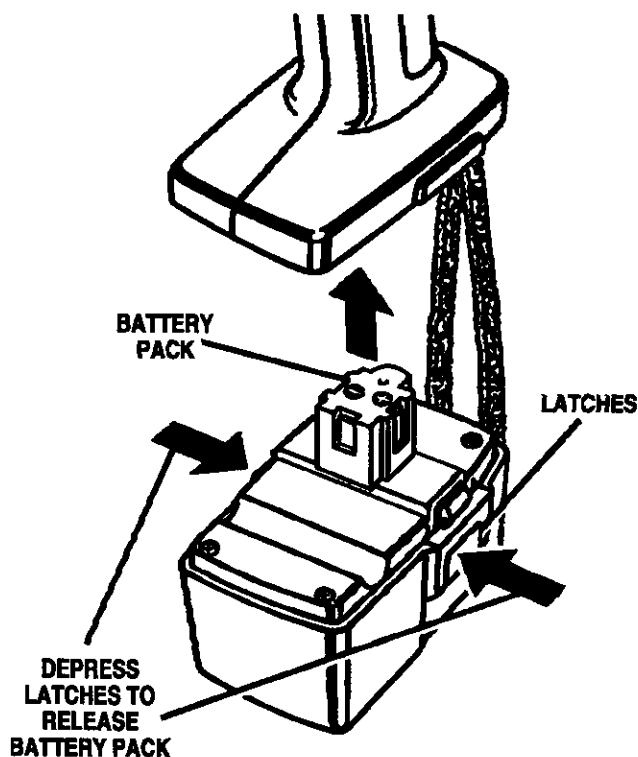

Fig. 4
- Place battery pack in your drill. Align raised rib inside drill with groove on battery pack. *See Figure 4.*
- Locate latches on end of battery pack and depress to release battery pack from your drill. *See Figure 4.*